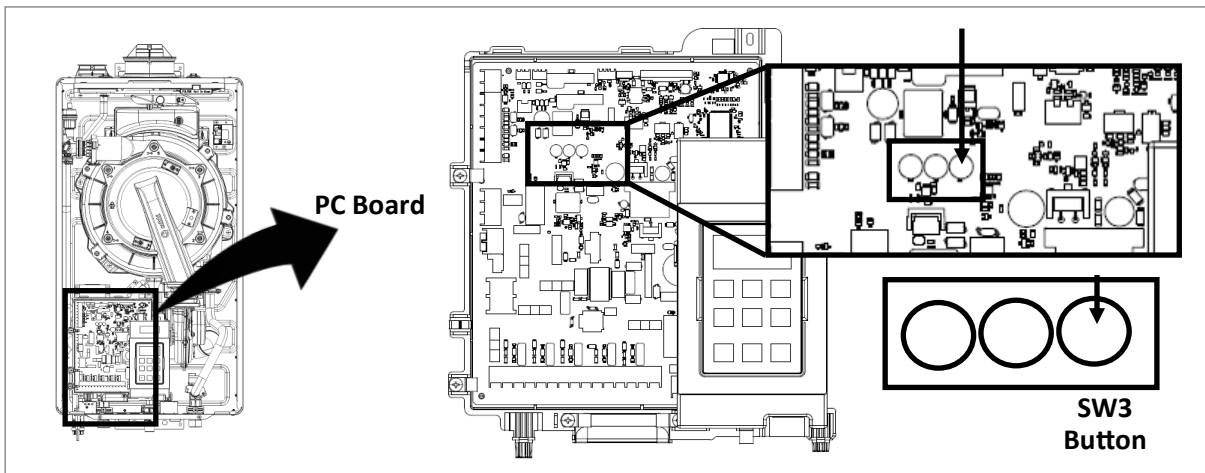
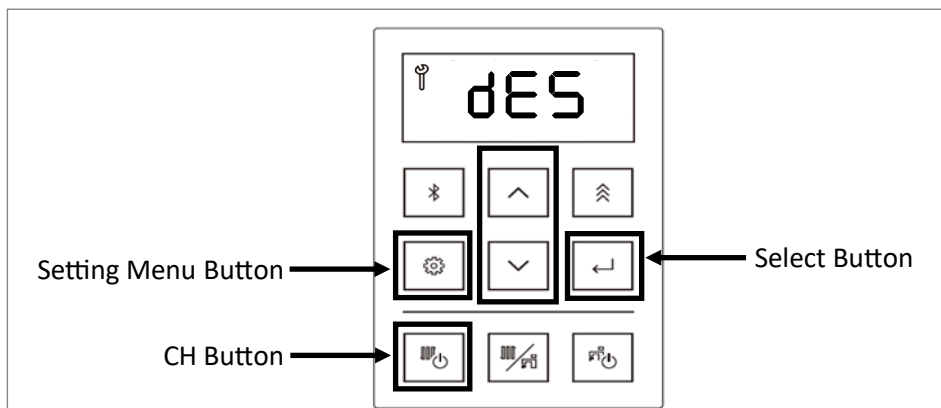

Figure 133
Figure 134
4. Press the SW3 button on the PC Board (Figure 133).
5. Press the up or down arrow button on the controller to select dES (descaling) (Figure 134).
6. Press the Select button to select the dES (Figure 134).
8. Press the Central Heating (CH) button to start the count down (Figure 134).
**Note:** If you need to cancel this procedure, you may press the Setting Menu button on the controller (Figure 134), or press the SW3 button on the PC Board (Figure 133).